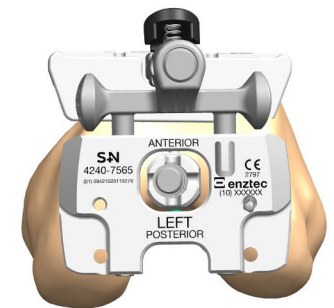

Figure 73
3. Orient rotation of the assembly neutral to the posterior condyles and insert a non-headed 65mm pin into one of the distal holes to maintain rotation (Figure 73).